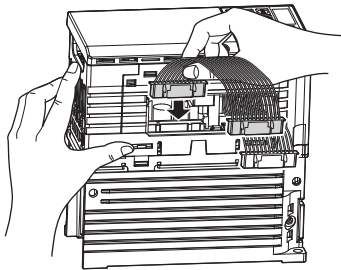

Figure 10 Plugging the Option Connection Cable into the Drive (PS-V10S)
2. Next, plug the supplied 24 V Power Supply Option connection cable into the drive cable socket and click firmly into position as shown in **Figure 10**.